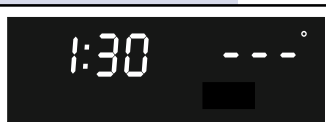

Figure 1
3. Press  or . "- - -" will appear in the display (Figure 1).
3. Press  or . "550°" will appear (Figure 1).